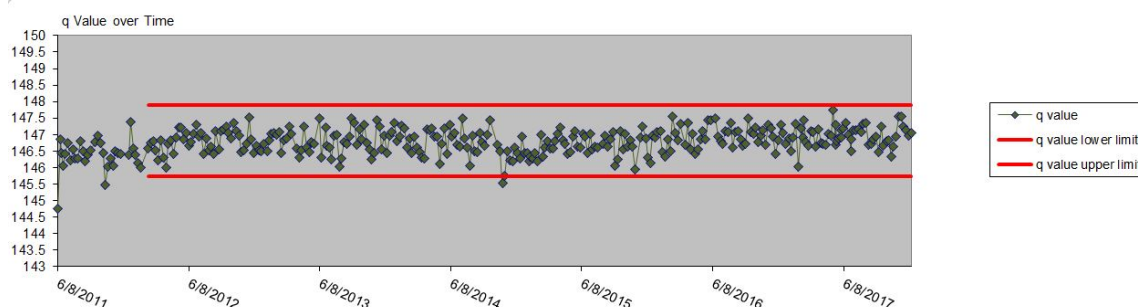

Figure 2: Detector Calibrations Graph, q value over Time
4. Review the graphs and verify all the values are within the acceptable limits, see Figure 2, Detector Calibration, below as an example. If the values exceed the acceptable limits, repeat detector calibrations (Step 2 above).